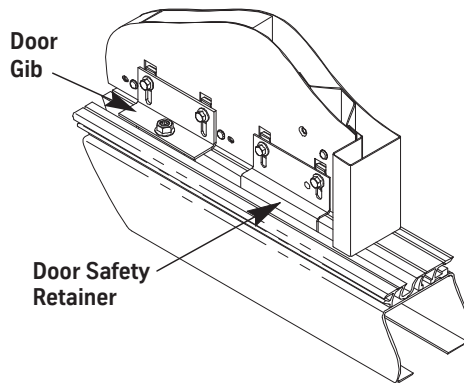

Figure 62 - Door Gibs and Safety Retainers
7. Install the door gibs and the door safety retainers. See Figure 62 on page 7-71.